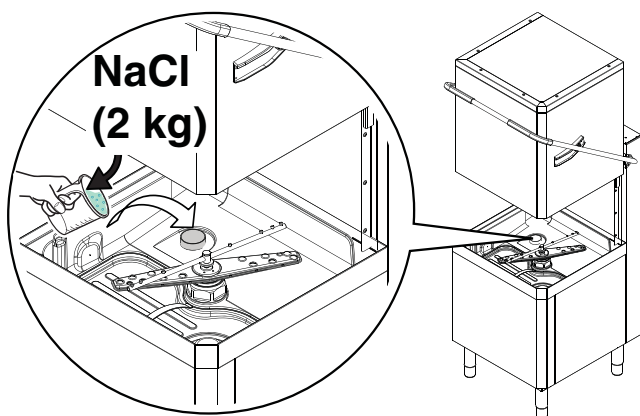

Figure 28 Add the salt
- Pour approx. 1.5 kg of coarse salt [NaCl] in container "A" (an amount sufficient to fill the salt container up to the rim) using the special funnel supplied (Figure 28).